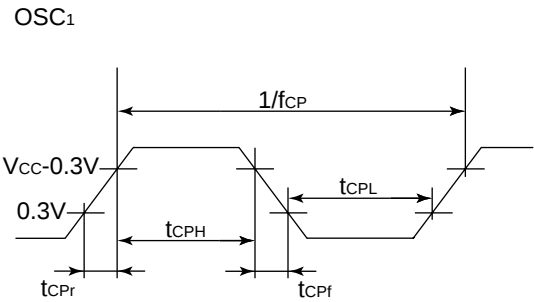

Figure 104 External Clock Input Waveform
- (1) The time required for the oscillation to settle after V_{CC} has reached min. at power-on.
- (2) The time required for the oscillation to settle after $\overline{\text{RESET}}$ input has gone low when stop mode is cleared.To ensure enough time for the oscillation to settle at power-on hold the $\overline{\text{RESET}}$ input low for at least time t_{RC} . The oscillation settling time will depend on the circuit constants and stray capacitance. The resonator should be determined in consultation with the resonator manufacturer. With regard to the system clock (OSC_1 , OSC_2), bits MIS1 and MIS0 in the miscellaneous register (MIS) should be set according to the oscillation settling time of the resonator used.
3. See figure 104.